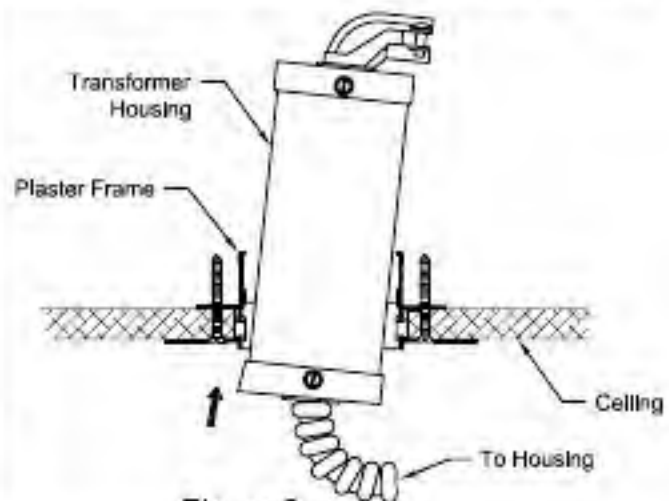

Figure 3
3. Connect electrical wires from Transformer Housing to Existing Electrical Service via 1/2" Pullbox or other end user supplied wiring method. See Fig. 3.
4. Insert Transformer Housing, Pullbox (if used) and Wiring through Plaster Frame and into Ceiling. See Fig. 3.